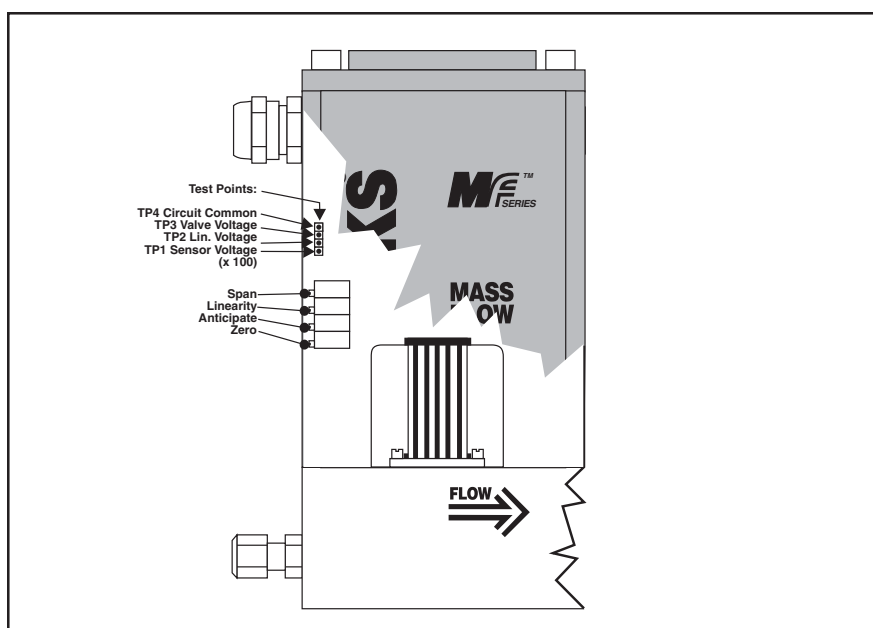

Figure 3-4 Adjustment Potentiometer Location
To check zero, always mount the instrument in its final configuration and allow a minimum of forty minutes for the temperature of the instrument and its environment to stabilize. Using a suitable voltmeter or current meter, check the instrument output signal. If it differs from the factory setting, adjust it by removing the lower pot hole plug which is located closest to the instrument body. Adjust the zero potentiometer (refer to Figure 3-4) until the desired output signal is obtained.
- c. Connect the DVM positive lead to the 0-5 V signal output TB-1, Terminal 5, and the negative lead to signal common (Terminal 4). Adjust the zero potentiometer for an output of 0 mV $\pm$ 2mV (refer to Figures 3-4 and 3-5 for test point and potentiometer locations).